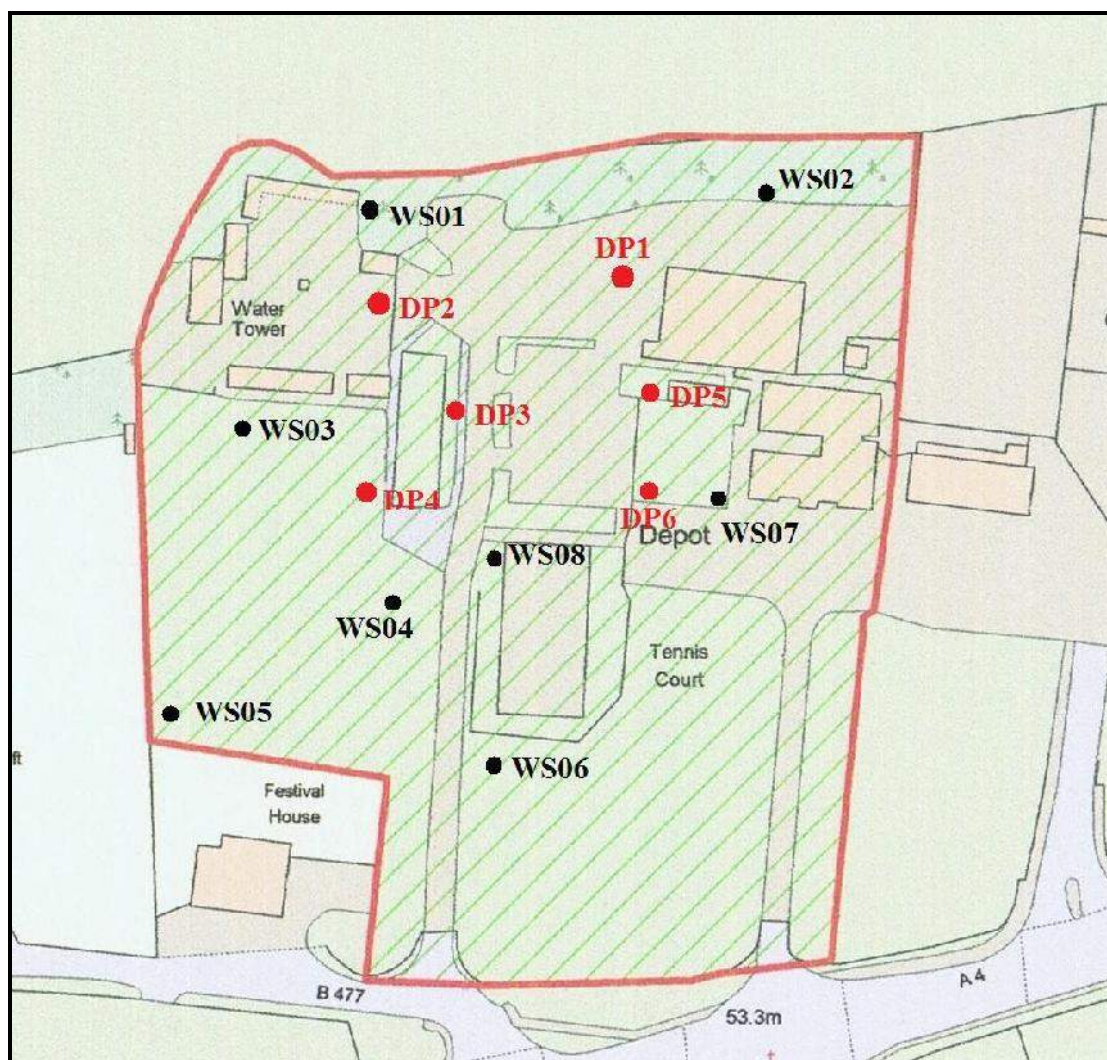

Figure 02. Site Layout and Borehole Locations
The borehole logs are presented in **Annex C**. The additional probing is detailed in Annex H. The positions of the Boreholes (WS) and Probes (DP) are shown on **Figure 02**.